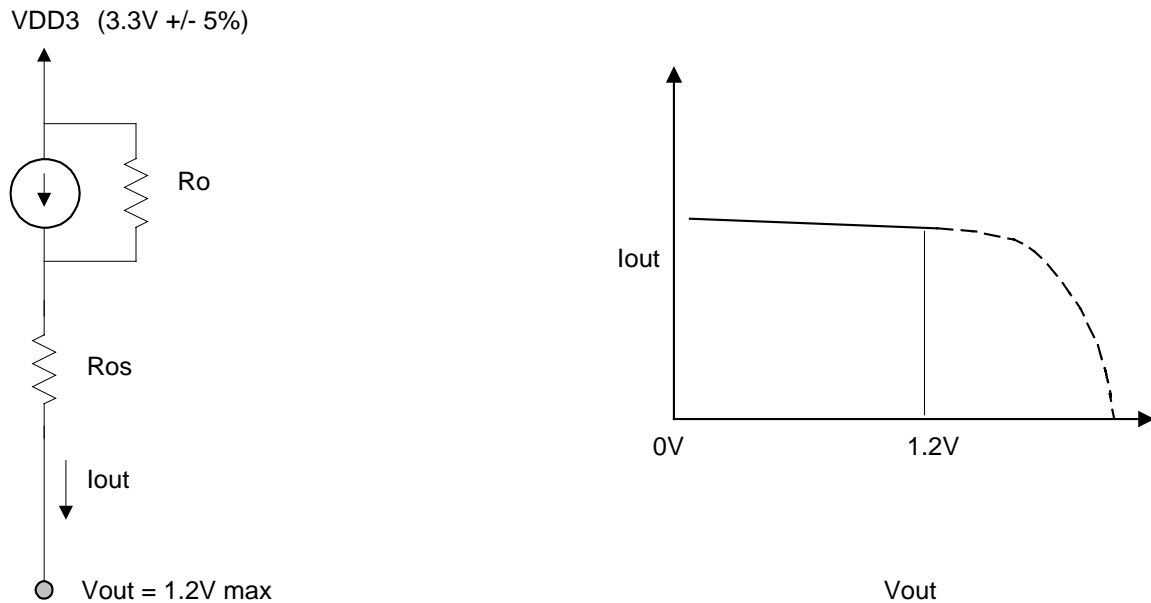

Figure 5
1. Output impedance of the current mode buffer circuit - R_o (see Figure 5).
2. Minimum and maximum required voltage operation range of the circuit – V_{op} (see Figure 5).
3. Series resistance in the buffer circuit – R_{os} (see Figure 5).